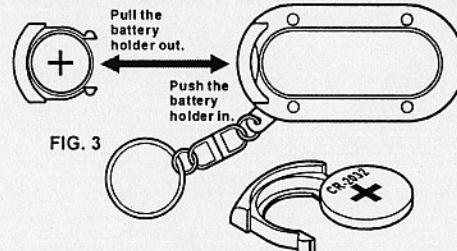

FIG. 3
- Turn the remote controller back and pull the battery holder out. (Fig. 3)
- Make sure the battery installed in right position according to mark on the body. (Fig. 3)
- Reassemble the battery holder by insert into remote controller body. (Fig. 3)